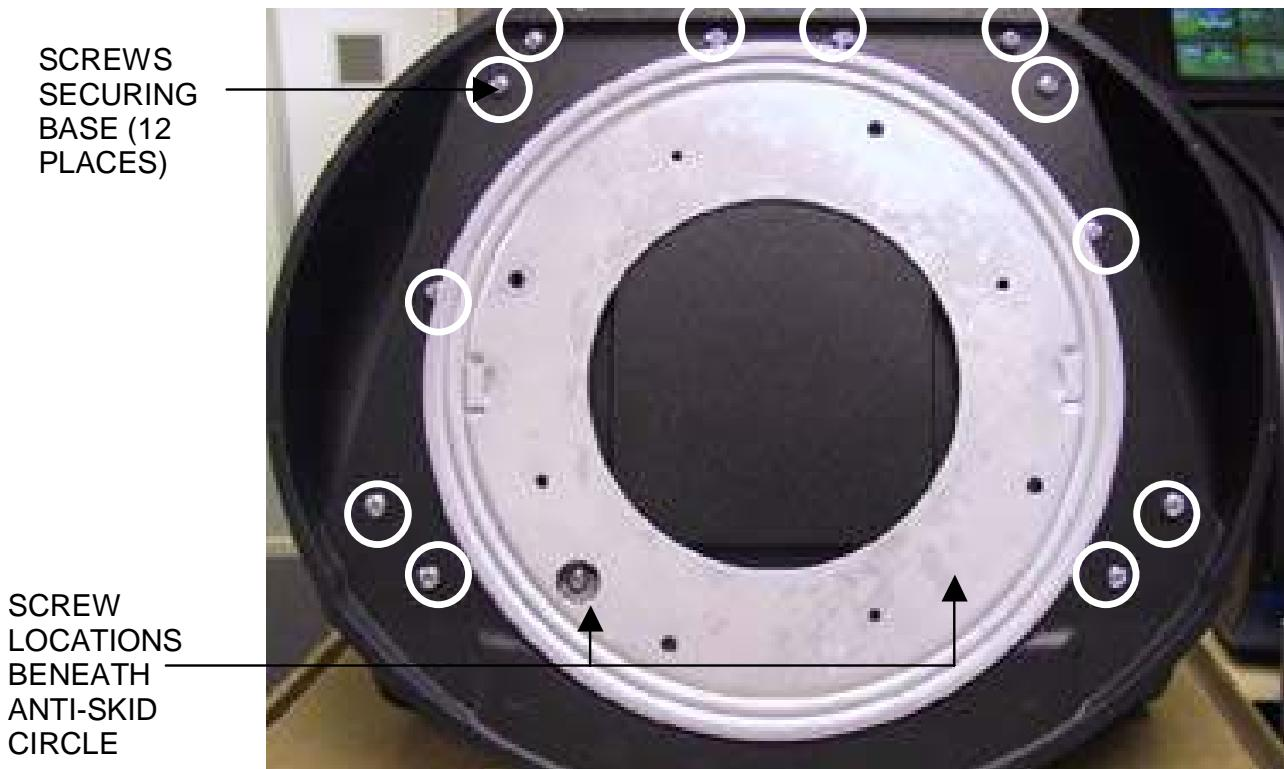

FIGURE 2 - ELITE EDGE - BASE AND ANTI-SKID CIRCLE REMOVAL
7. Remove the 2 mounting screws located beneath the anti-skid circle. Rotate the circle for access to the screws. See Figure 2.
8. Remove the additional 12 screws outside the circle that are securing the bottom cover. See Figure 2. **NOTE: When removing the last few screws, be sure to hold the cover in place. If the cover is not properly secured, it may cause injury to the operator and/or damage the cover.**